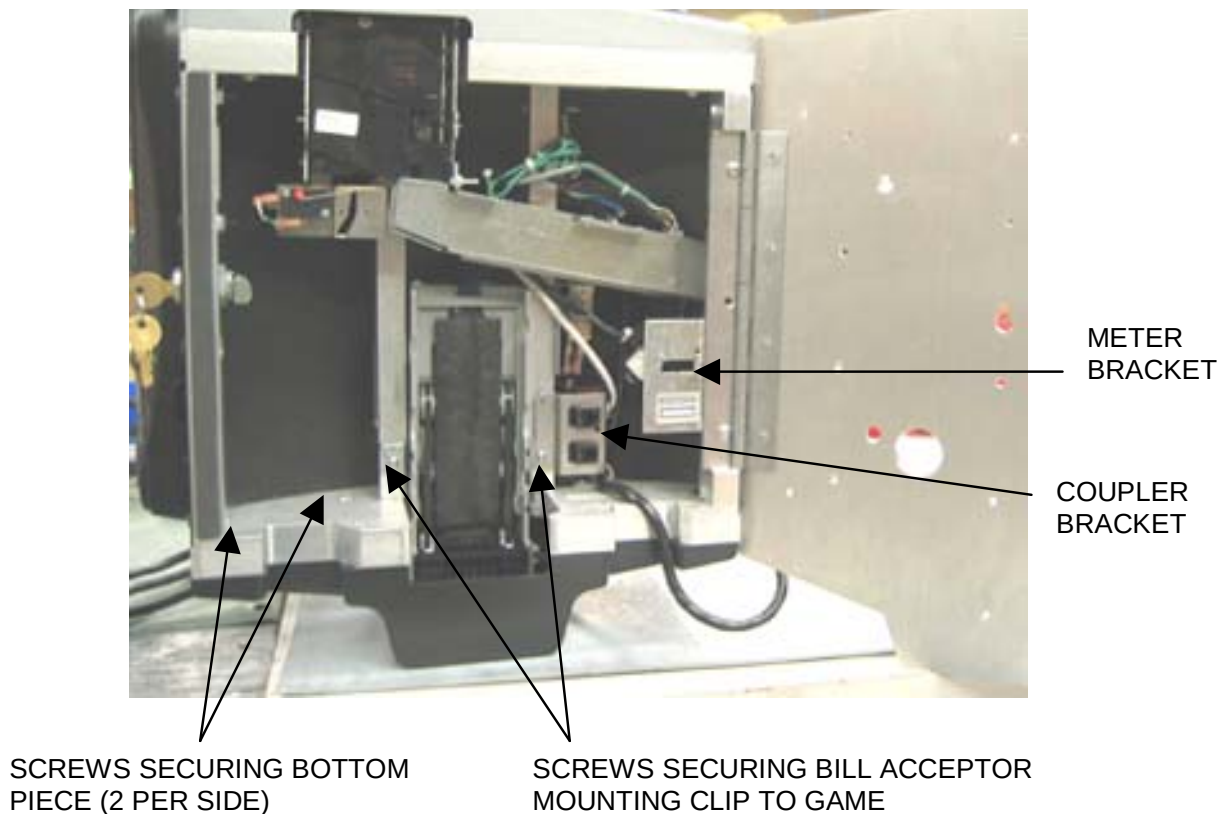

FIGURE 1 - EVO WALLETOE/MEGATOUCH ENTERTAINER FROM THE REAR
4. Remove the screw securing the coupler bracket but keep the cable(s) connected. This bracket only needs to be moved aside in order to access the screw underneath. See Figure 1.
5. Remove the 4 screws securing the bottom support piece to the game and remove the bottom piece. If necessary, remove the nut and screw securing the meter bracket and remove the bracket in order to access the screws. See Figure 1.
6. Remove the remaining screw securing the bill acceptor mounting clip to the game. See Figure 1.